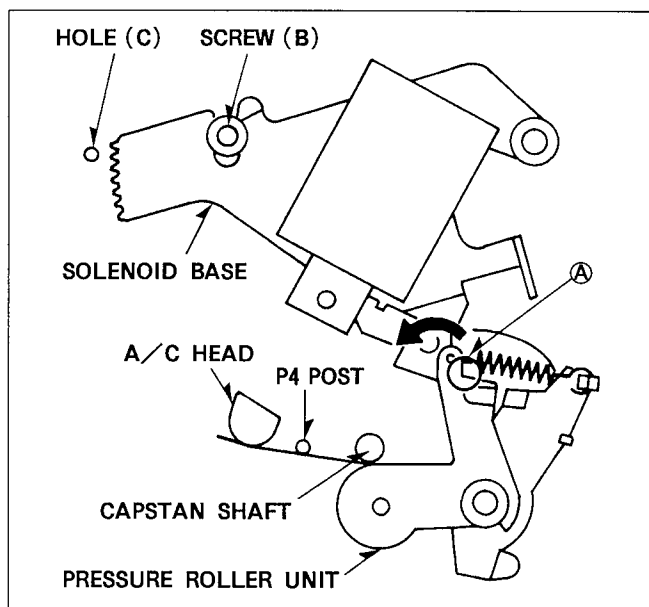

Figure M37
3. Set the Fan Type Tension Gauge to the part (A) of Pinch Roller Unit.
4. Press the Arm with the Gauge, in the direction indicated by the arrow as show in Figure M37.